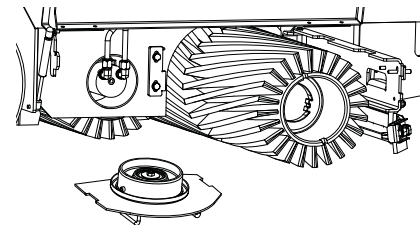

Fig. 5
5. Using the handles pull the brush idler plate away and free from the scrub deck. (See Fig. 5)
6. Pull the brush out from the scrub deck. (See Fig. 5)